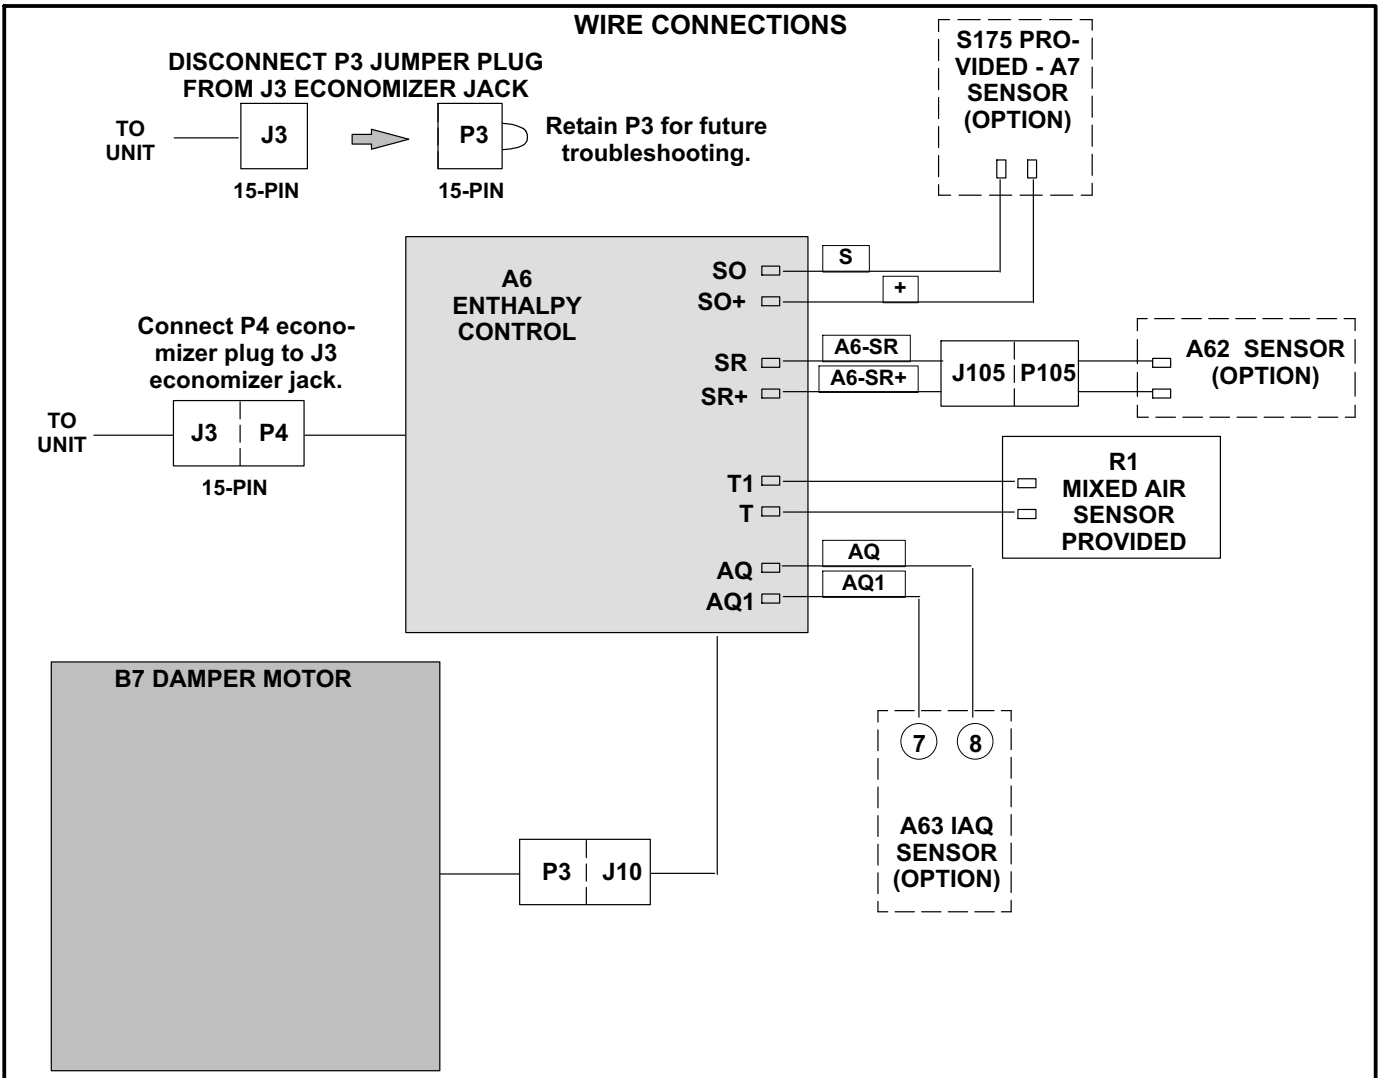

FIGURE 4
- 2- Connect any optional sensors as shown in figure 4.